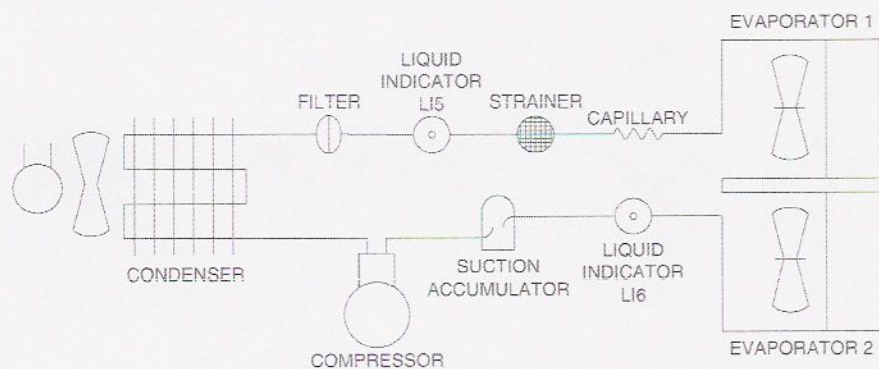
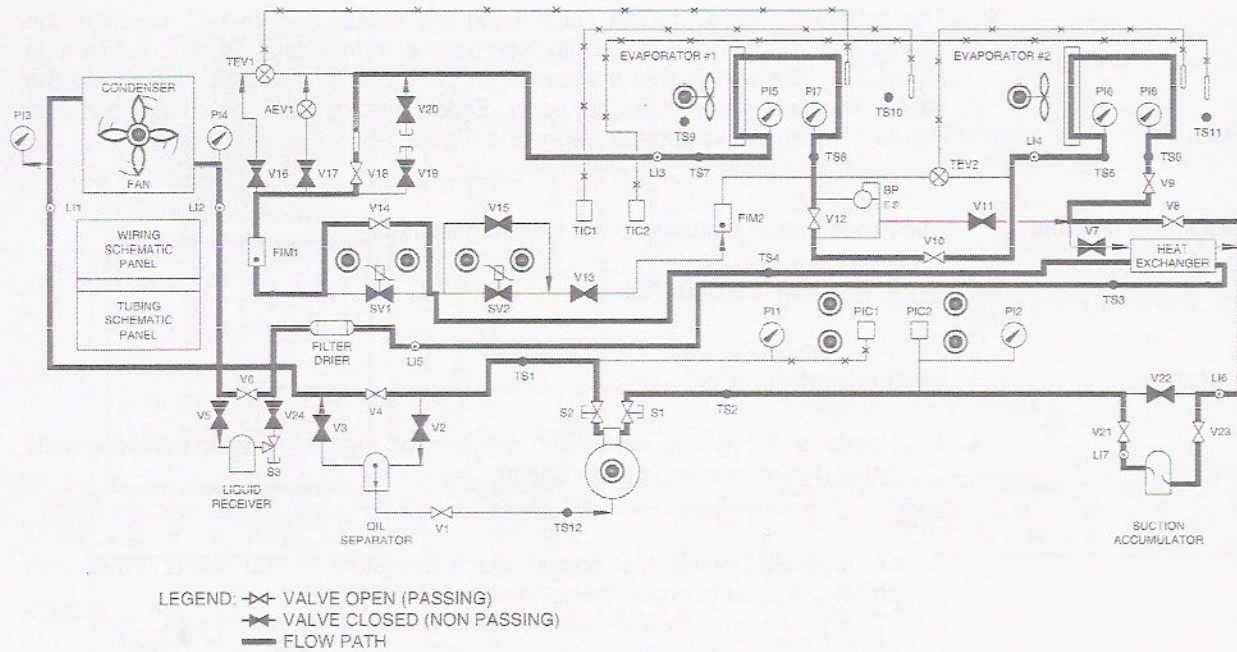

Figure 1-6. Tubing schematic panel.
Figure 1-7. Valve configuration.
To connect a refrigeration system, a tubing schematic diagram, as shown in Figure 1-6, is required. This diagram shows the devices required to connect the system and their locations within the system. This diagram does not show which manual valves should be opened or closed. It is therefore necessary for you to understand how to follow this diagram.
The schematic panel (tubing section) on the trainer (Figure 1-7) identifies the valves which must be closed to set up the refrigeration system shown in Figure 1-6. The valves that are darkened in Figure 1-7 must be closed and the valves that are white must be open. Follow through the schematic panel in Figure 1-7 with the schematic diagram in Figure 1-6.
1. Compare the tubing schematic diagram of Figure 1-6 with the schematic panel (tubing section) on the trainer.
3. The following is a list of the trainer's manual valves which must be opened and closed to form the system shown in Figure 1-6.
Follow through the schematics in Figure 1-6 and Figure 1-7 as you open and close the valves.
4. List the valves that must be opened and closed to add the following device to the system of Figure 1-7: liquid receiver and oil separator.
1. On Figure 1-7, which manual valve is used to allow/block the flow of refrigerant to the capillary tube control? Is this valve shown as open or closed in the figure?